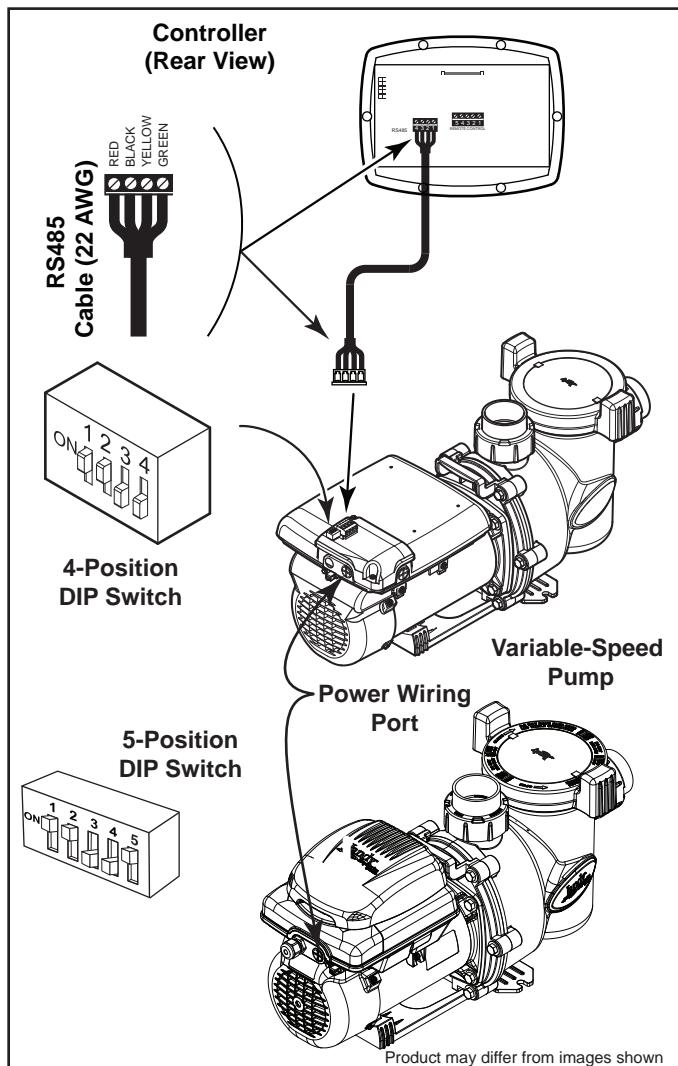

Figure 9. Wiring Variable-Speed Controller (JEP-R)
4. Attach the four (4) wires in the RS-485 cable to the RS-485 connector. Match the wire colors with the positions on the connector: 1- red, 2- black, 3- yellow, and 4- green. See Figure 9.
6. Slide dip switches 1 and 2 up, so they are in the ON position, and slide switches 3 and 4 down, so they are in the OFF position. See Figure 9.
See Figures 9 and 10 for compartment's location details. An access cover with Phillips-head screw must be removed before proceeding.